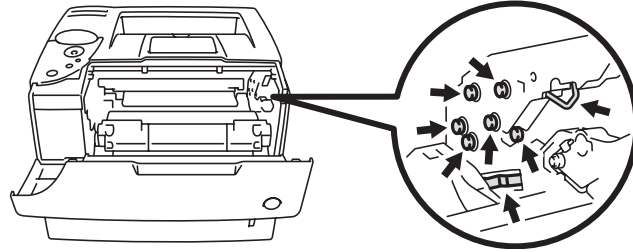

Figure 5-3
- To prevent damage to the printer from static electricity, do not touch the electrodes shown in Figure 5-3.